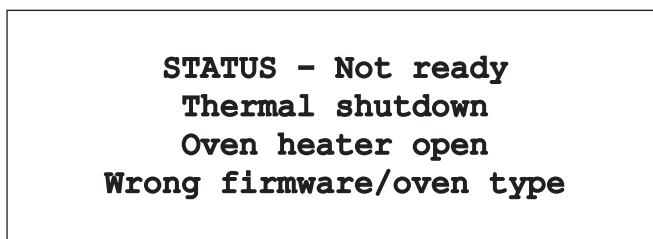

Figure 30 Headspace status with incorrect firmware installed
- 2 Press **[Status]** on the headspace keypad. The headspace status displays a message similar to what is shown in Figure 30.